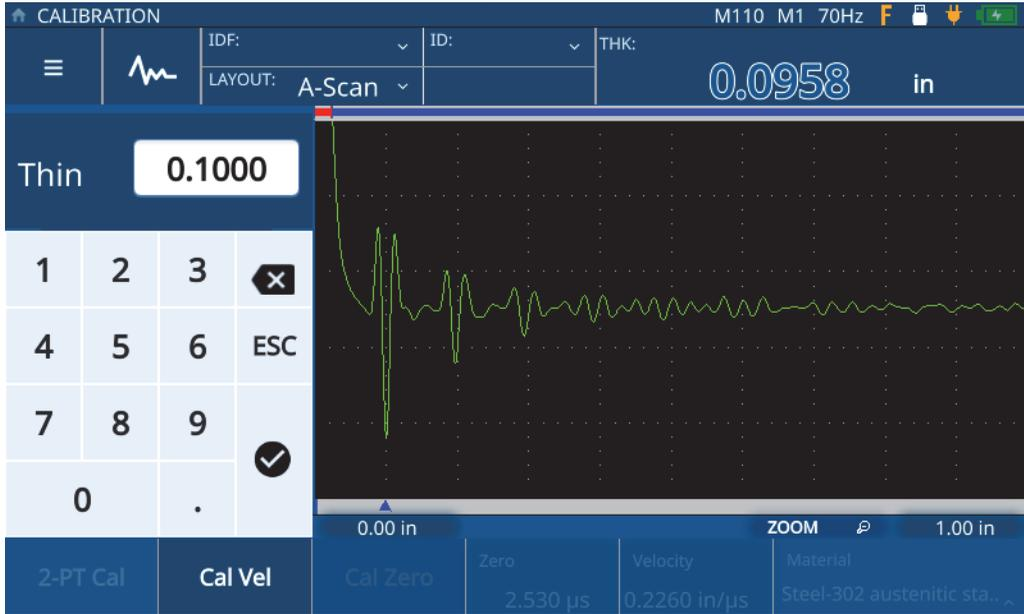

Figure 5-11 Entering Sample Thickness
8. Tap the **Thin** value to enter **Edit** mode, and enter the thickness of the sample (see Figure 5-11 on page 50).